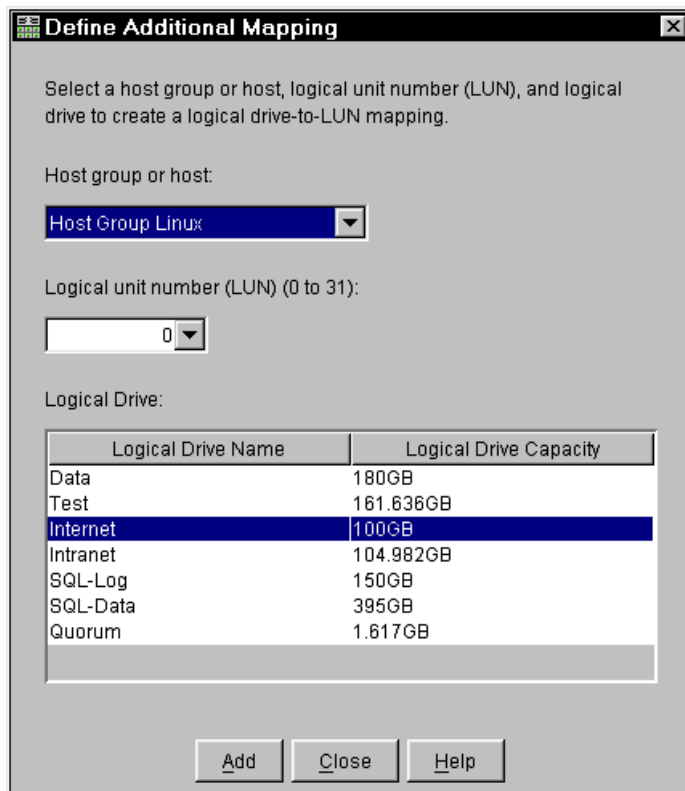

Figure 4-43 Define Additional Mapping
- In the Define Additional Mapping dialog, select the logical drive you want to map to this host group and assign the correct LUN number (Figure 4-43), according to the mapping table (Table 4-2 on page 86).